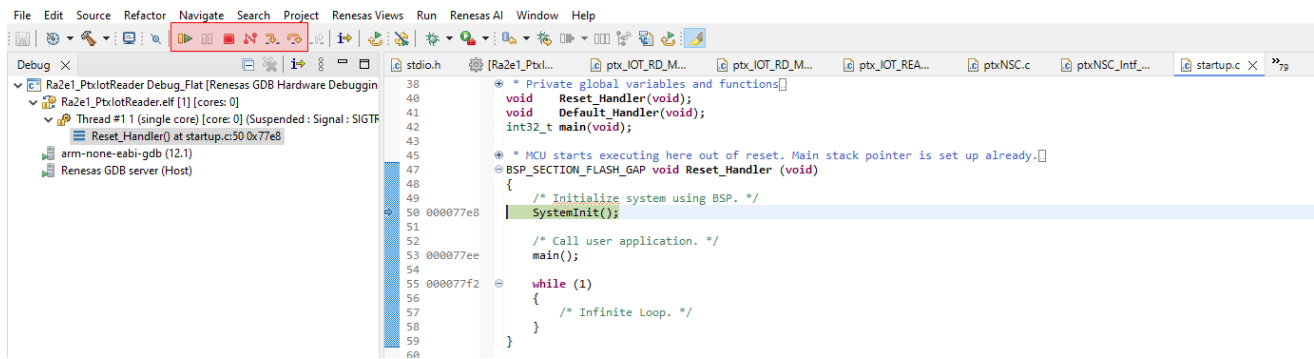

Figure 9. Application Startup Window
- When completed, click **Resume** twice to start the application (see Figure 9).